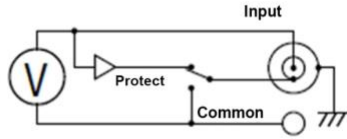

Figure 5-5 Simplified Circuit Diagram of Voltmeter
**Note:** Voltmeter connector's inner shield is internally connected to Guard or Common as shown in Figure 5-5. The internal connection must be made properly. It must be connected to Guard for the guarded voltage measurement. And it must be connected to Common for the unguarded voltage measurement. Incorrect setup causes measurement errors. See "Guarded and Unguarded Connections" for more information.